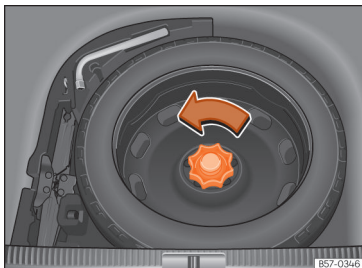

Fig. 214 In the luggage compartment: raised load floor.
- Turn the thumb wheel anticlockwise >>> Fig. 214.